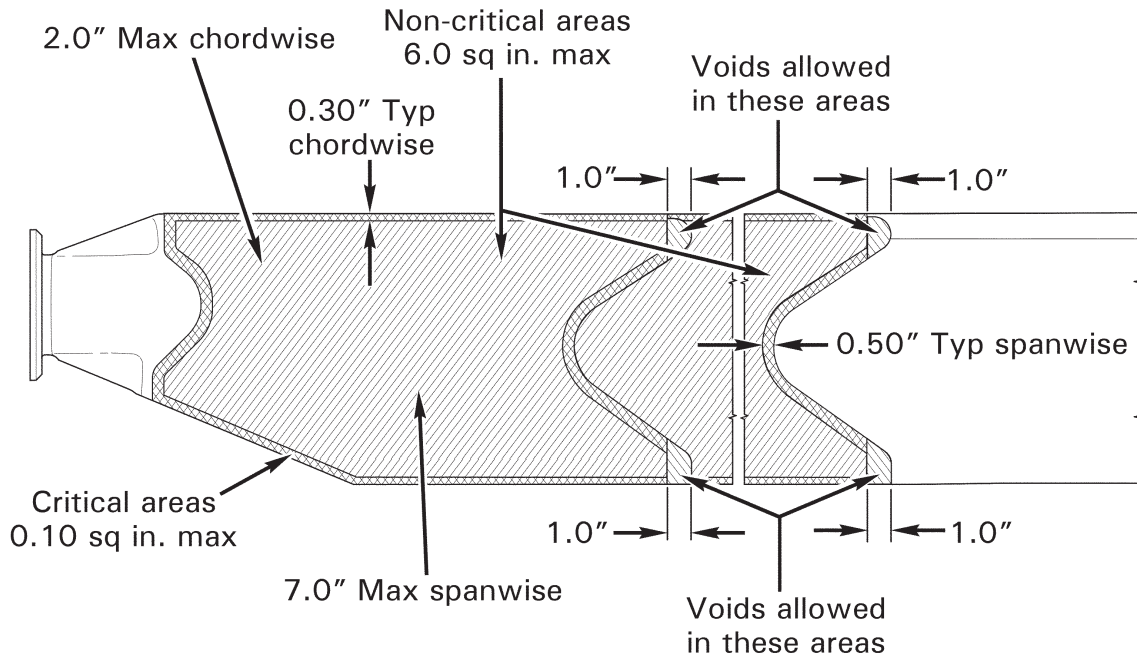

FIGURE 62-19 DOUBLERS - VOID AND DEBOND LIMITS
1. Refer to Figure 62-19. Voids or debonds in doublers are not field-repairable.